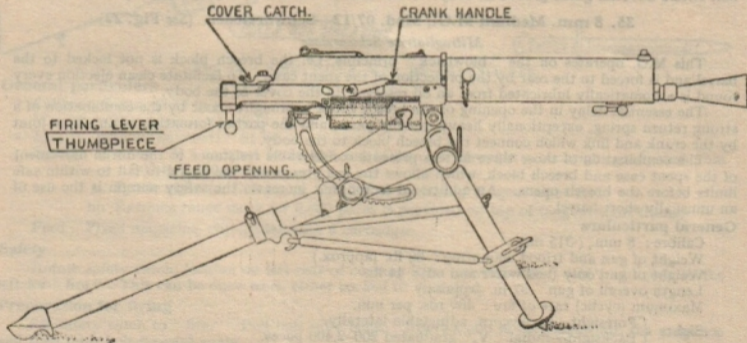

FIG. 22.—8 MM. M.G. MOD. 07/12—SCHWARZLOSE.
35. 8 mm. Medium M.G., Mod. 07/12—Schwarzlose. (See Fig. 22)*Mitragliatrice Schwarzlose*